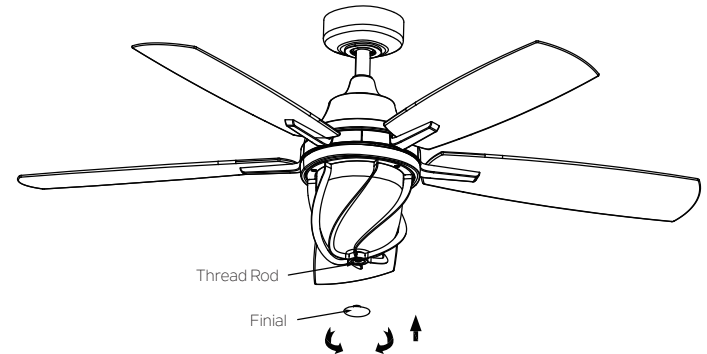

Fig. 25
Step 6. Screw the finial into the threaded rod of light kit. (Fig. 25)